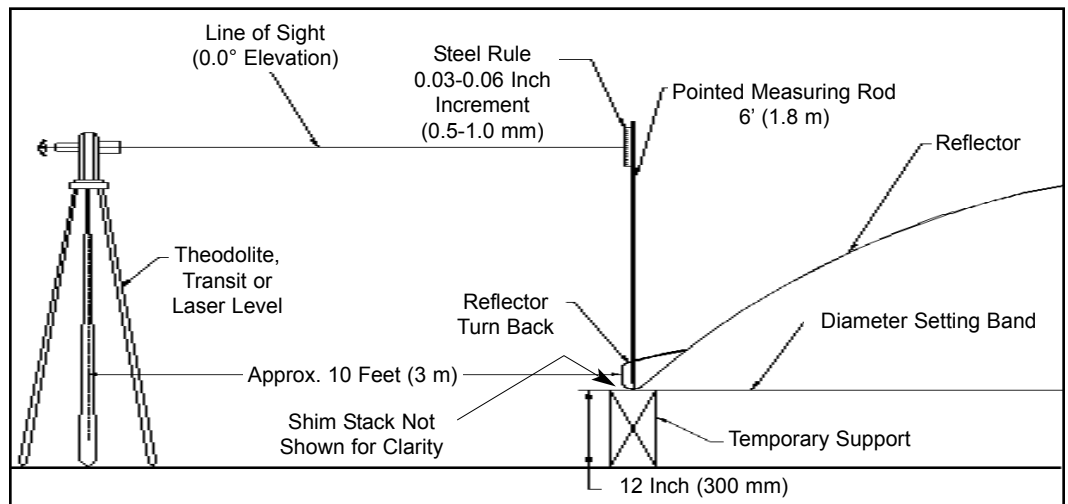

Figure 39
Position theodolite, transit or laser level about 10 feet [3m] from outside perimeter of reflector (see Figure 39).
Site through theodolite/transit/laser level to determine where on measuring rod to place steel rule onto rod to allow visibility of steel rule through theodolite/transit/laser level at all (6) six measurement locations around reflector. Securely fasten both ends of steel rule to measuring rod with adhesive tape (see Figure 39).
Step 7 Position measuring rod point down over temporary supports and on the flat portion of the aperture face as shown in Figures 39 and 40, using transit carefully measure and record relative height of each of the (6) temporary support locations. **Note:** Measuring rod must be held in a vertical position during all measurements.